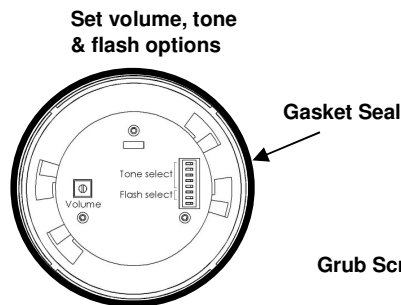

Figure 3
4. Set the Volume, Tone & Flash options via Pot & DIP switch shown in Figure 3, in accordance with the setting data on the reverse.
5. Ensure the Gasket Seal is correctly seated around the head, where shown in figure 3.